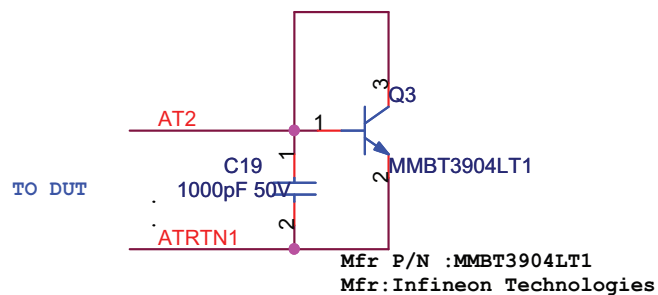

Figure 2-10 · Temperature Diode Schematic
One external temperature diode (Figure 2-10) on the Fusion Advanced Development Kit board is available for temperature measurement. This temperature diode is routed to the analog temperature (AT) and AT return (ATRTN) input pins of the temperature monitor block.